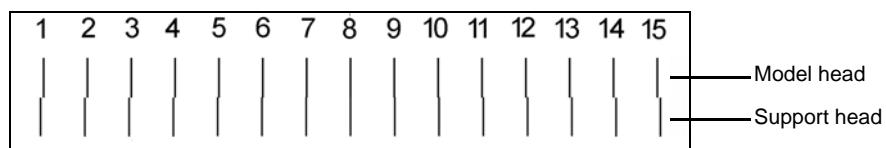

Figure 7-47: Sample head-alignment test
9. Use a magnifying glass or loupe to inspect the transparency. Optimum head alignment is shown when the two #8 lines, in the upper and lower rows, are aligned, as in figure 7-47. In the example shown, no change to the head alignment is necessary. If other lines in the set are aligned, you need to change the alignment—in the next wizard screen.